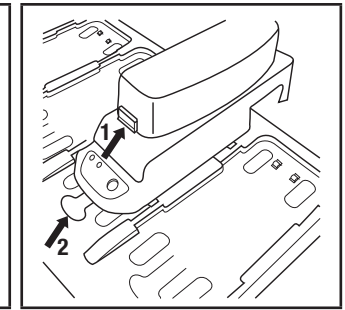

Fig. 3 – Cradle removal
- Removal: Release battery pack from cradle – press blue release tab on battery and lift out (Fig. 3, #1).
- The TR-640 can remain attached to the TR-944N if desired. To release the cradle from base, press down on the oval release tab on the base, slide cradle forward and lift out (Fig. 3, #2). Be careful not to pinch fingers as the cradle slides forward.